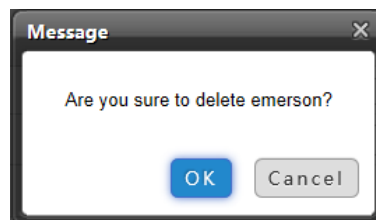

Figure 3-56 Confirming dialog box
2. Click the **Delete** button to pop up the confirming dialog box, as shown in Figure 3-56.